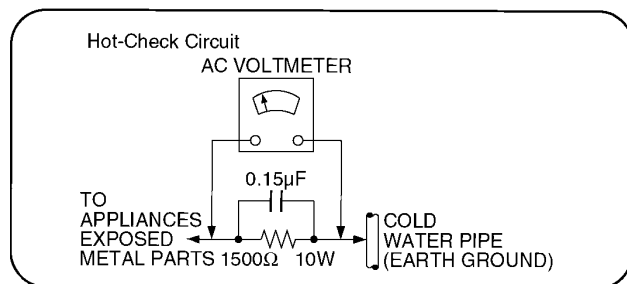

Figure 1
1.1.2. Leakage Current Hot Check (See Figure 1.)
2. Connect a 1.5kohm, 10 watts resistor, in parallel with a 0.15μF capacitors, between each exposed metallic part on the set and a good earth ground such as a water pipe, as shown in Figure 1.